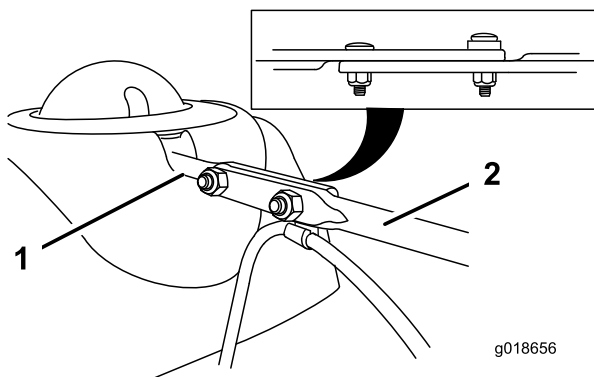

Figure 14
3. Align the flattened back end of the long chute control rod with the flattened front end of the short rod that extends from the control panel so that they nest together (Figure 14).